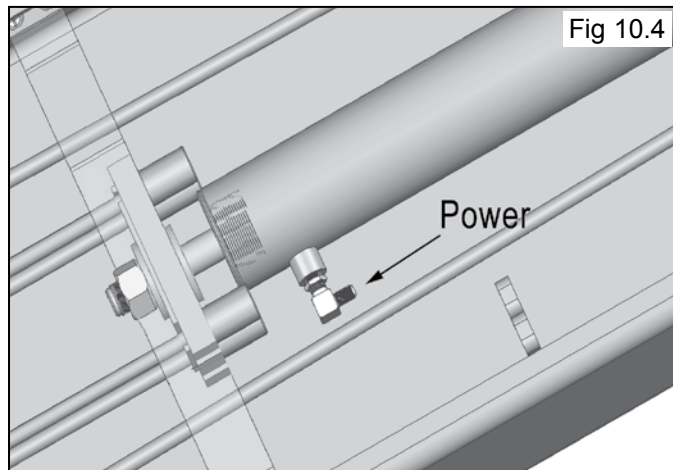

Fig 10.4
3. Install the 90-degree Hydraulic Fitting in the port at the ram end of the Cylinder. On the pipe thread side of the Fitting it is recommended to use Teflon Tape or pipe sealer. **DO NOT USE TEFLON TAPE on the JIC flared end.** (See Fig. 10.4 )